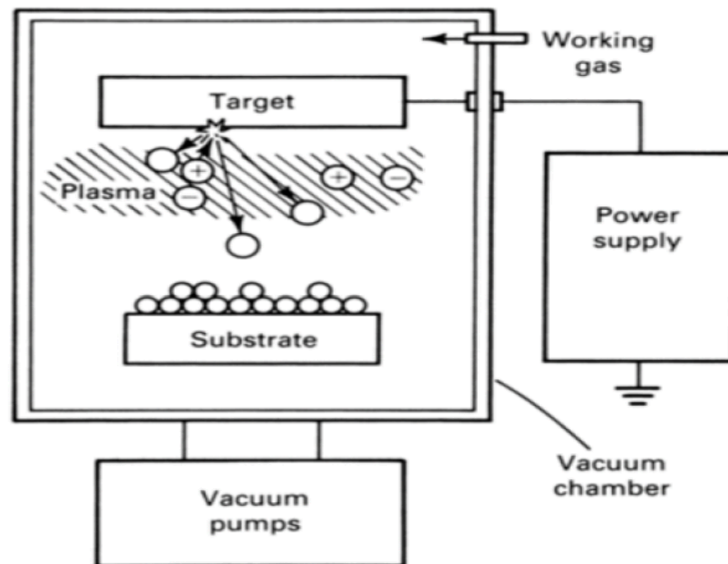

Fig. 5.16: Basic sputtering process
- **(Fig. 5.16):** Schematic of the sputtering process.